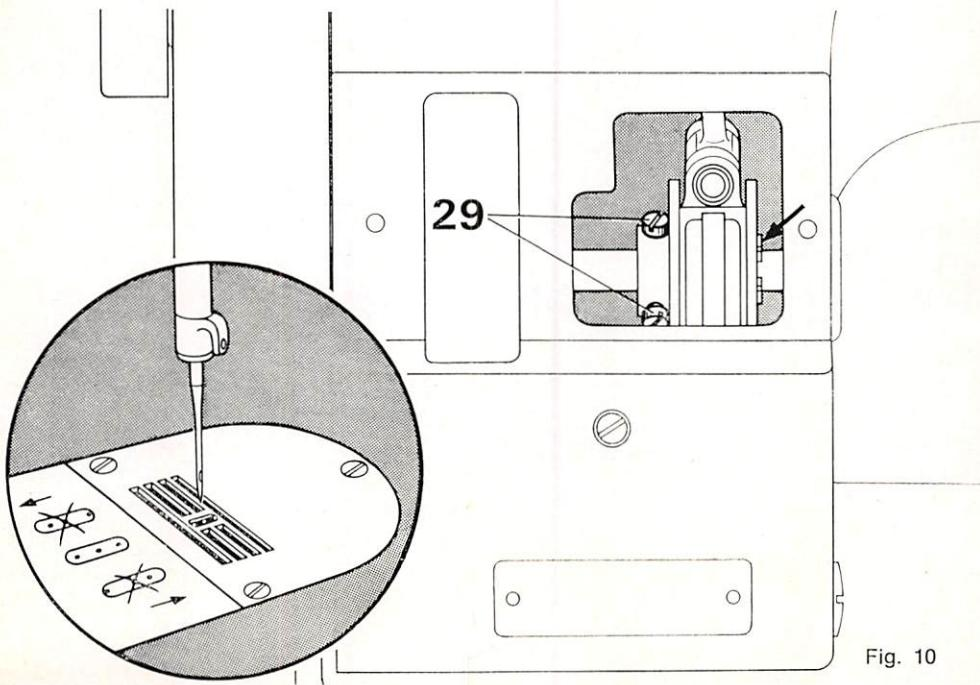

Fig. 10
7. **Adjusting the Needle Throw in Relation to the Central Needle Puncture (Fig. 10)**
- 7.9 After you have completed the adjustment, tighten screws **29** and push the circlip (see arrow in Fig. 10) up against the eccentric.